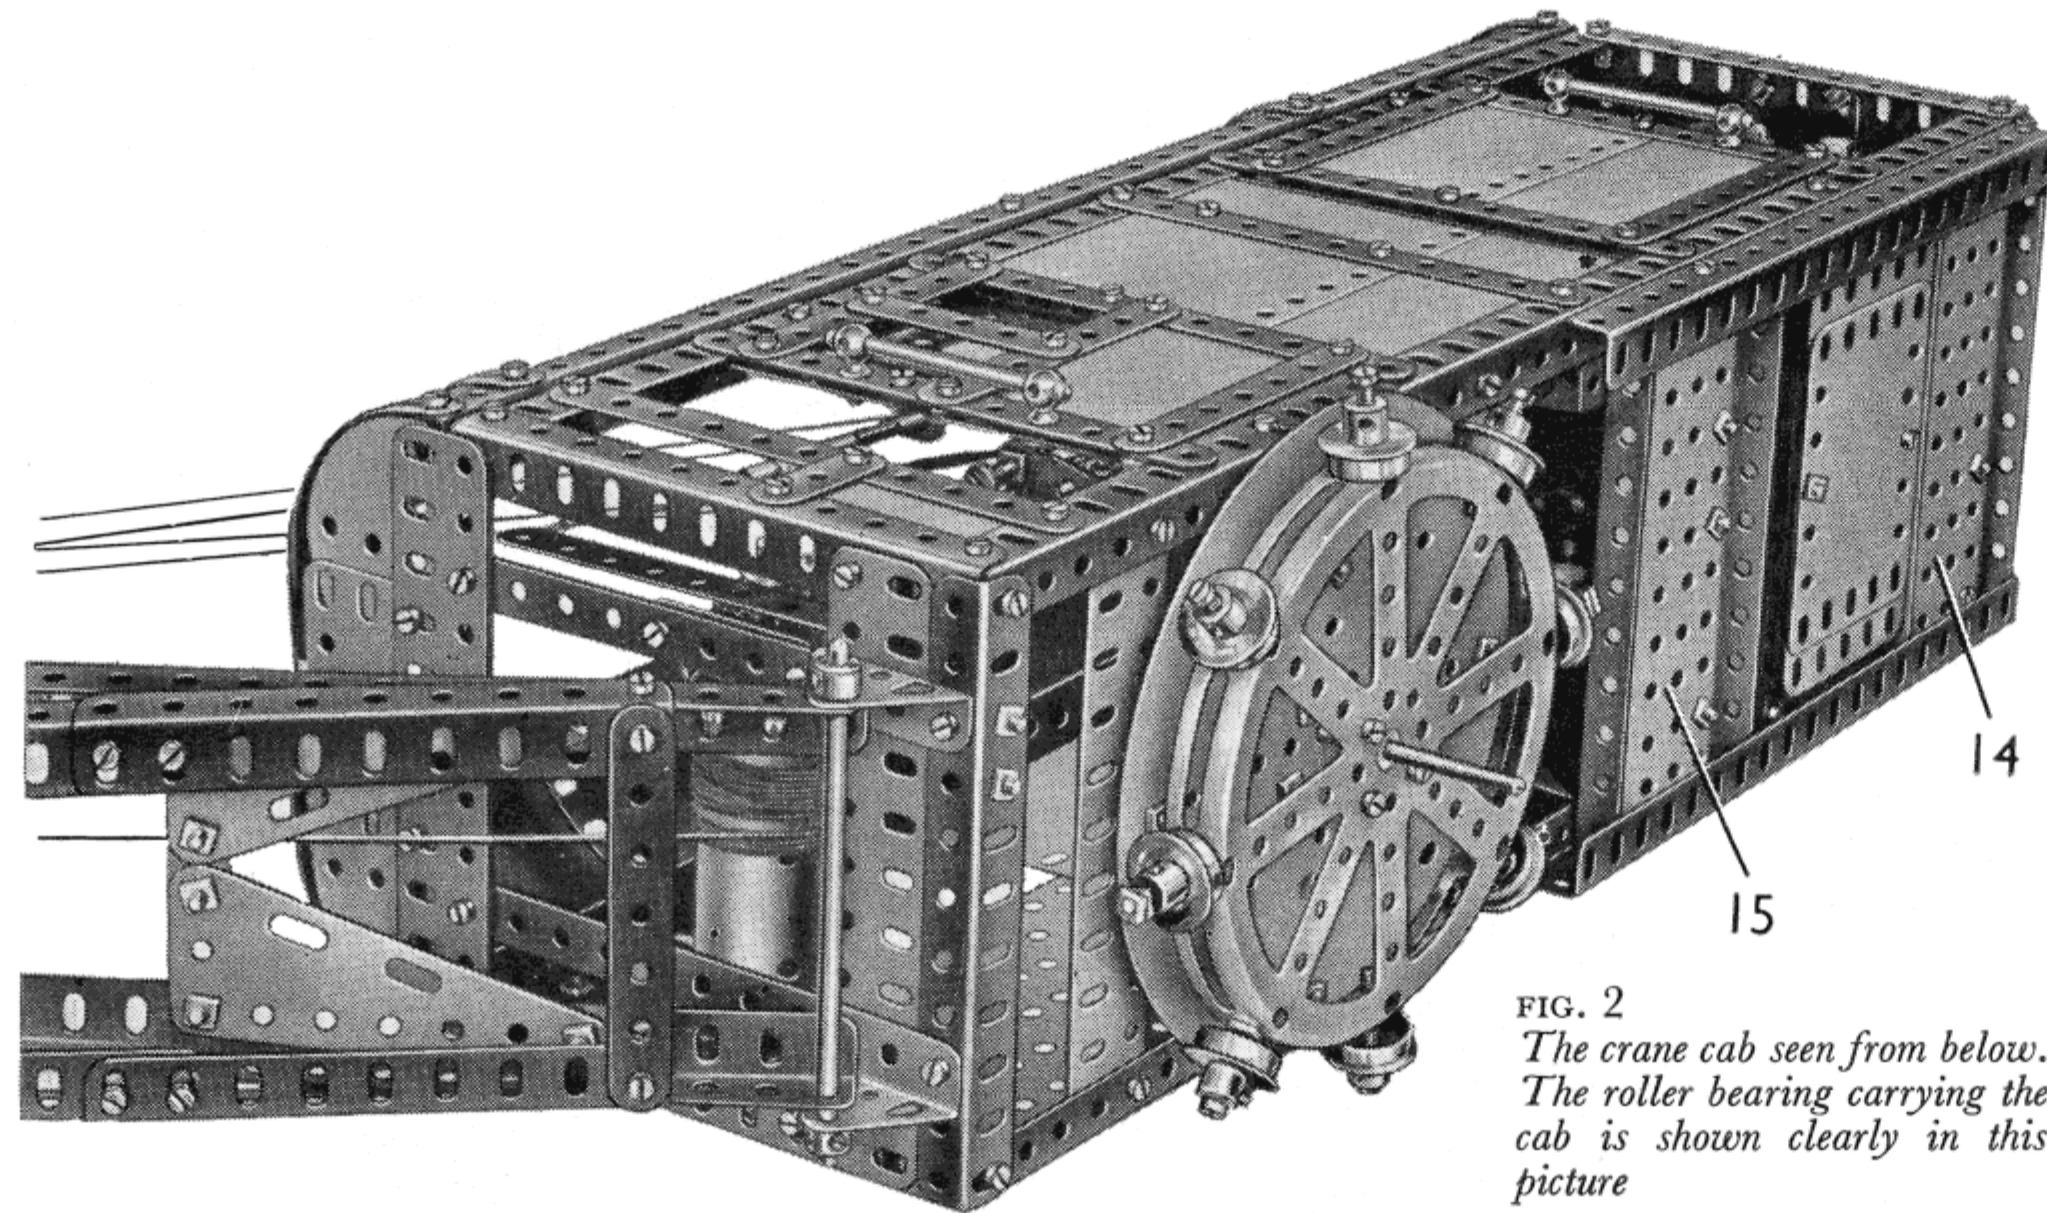

FIG. 2
An E15R Electric Motor is bolted to the Flanged Plate (14) (Fig. 2). A 50-tooth Gear on the armature shaft engages a  $\frac{3}{4}$ " Pinion on an  $11\frac{1}{2}$ " Rod. This Rod is mounted in the Motor side-plates and in the Double Angle Strips (23), and it carries a Worm that drives a 57-tooth Gear on a 4" Rod supported in the Flanged Plates (21) and (22). A  $\frac{3}{4}$ " Pinion (24) is fixed on this Rod. Two 3" Rods (one of them is seen at (25) Fig. 5), are mounted in the Flanged Plates, and each of them is fitted with a 50-tooth Gear that can be engaged with the Pinion (24) by sliding the Rod. Rod (25) is fitted with a  $\frac{3}{4}$ " Sprocket (26), and the other 3" Rod carries a  $\frac{3}{4}$ " Sprocket 27.
Two  $5\frac{1}{2}$ "  $\times$   $2\frac{1}{2}$ " Flanged Plates (14) and (15) (Fig. 2) are fixed to the base of the cab and between them are a  $5\frac{1}{2}$ "  $\times$   $2\frac{1}{2}$ " and a  $5\frac{1}{2}$ "  $\times$   $1\frac{1}{2}$ " Flexible Plate. Two  $9\frac{1}{2}$ " Angle Girders are attached to the flanges of the Flanged Plates. Seven  $5\frac{1}{2}$ "  $\times$   $2\frac{1}{2}$ " Flexible Plates, fourteen  $4\frac{1}{2}$ "  $\times$   $2\frac{1}{2}$ " Flexible Plates and three  $3\frac{1}{2}$ "  $\times$   $2\frac{1}{2}$ " Flexible Plates are fixed to the floor between the Flanged Plates and act as a balance weight at the rear of the cab.